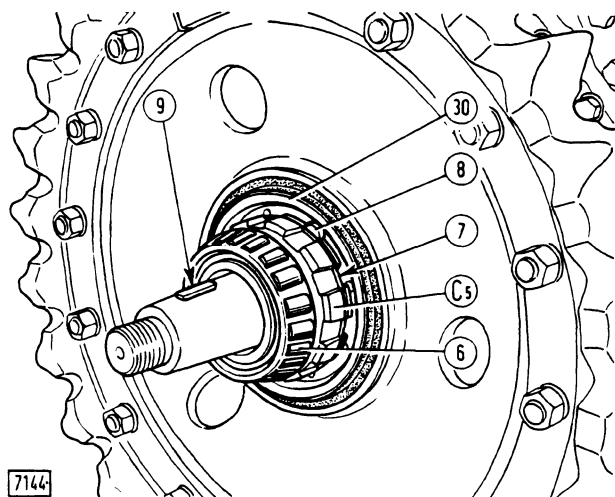

Fig. 56 - Sprocket hub.
- lock the sprocket (fig. 55) in place by tightening ring nut (**C5**, fig. 56) with spanner **75291597** and torque multiplier **75291279**, and insert tab (**8**), this beign held in place with snap ring (**7**).
- reassemble the inner ring of the outboard taper roller bearing (**6**, fig. 56). This is heated in oil at 80-90°C, along with the key (**9**), which must always be facing upwards;